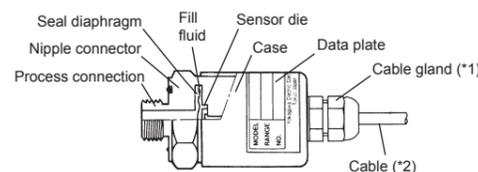

Figure 3 Components
- Mounting position: Horizontal (position in figure 3)